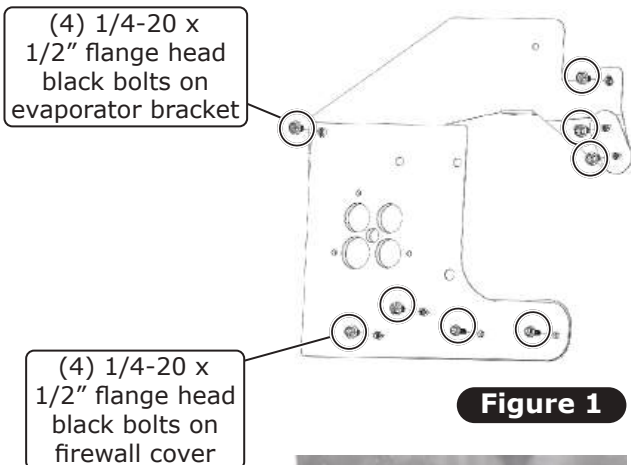

Figure 1
3. Install the evaporator firewall bracket and firewall cover using the (4) 1/4-20 x 1/2" flange head black bolts through the existing firewall holes, the battery trays and (2) lower mounting bolts. These bolts will pass through the firewall through existing holes (See Photos 4, 5, 6 and Figure 1, below).